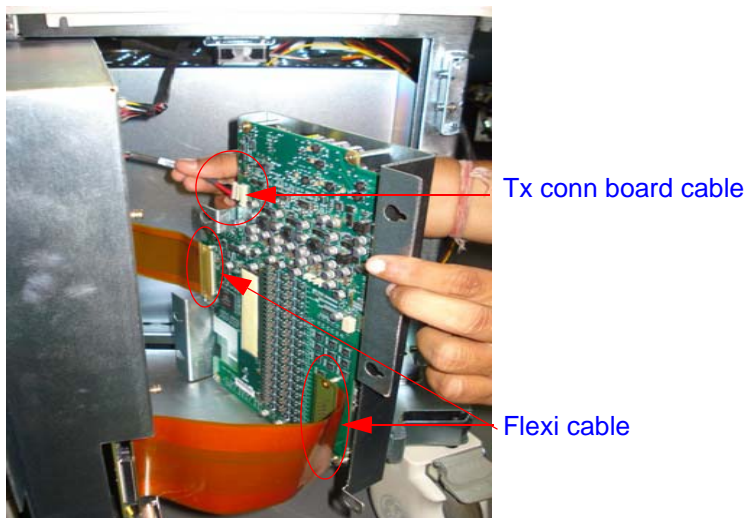

Figure 8-66 Removing TX conn board cable & Flexi cable
5) Remove the two flexi cable from TX board as shown below in Figure 8-66 on page 8-66